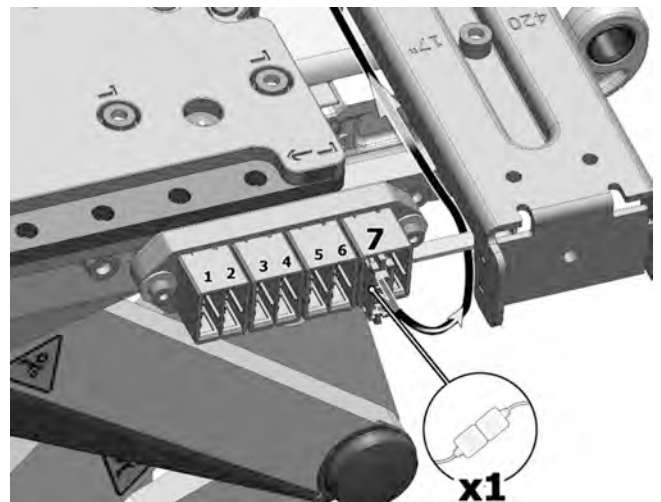

Figure 100. The ICS bus cable is connected to the seventh position of the connector block.
8. Connect the cable that connects the ISC Master Module to the contact block at the seat frame. See fig. 100. Mount the cable to its cable brackets on the seat frame. See *Rnet and ICS bus cable mounting*, Page 81.